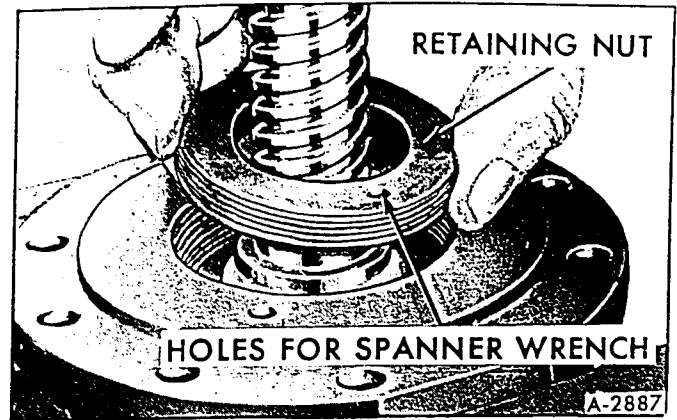

Figure 17 – Removing Bearing Retainer Nut
12. Use a spanner wrench to loosen bearing retainer nut. Remove retainer nut (fig. 17).